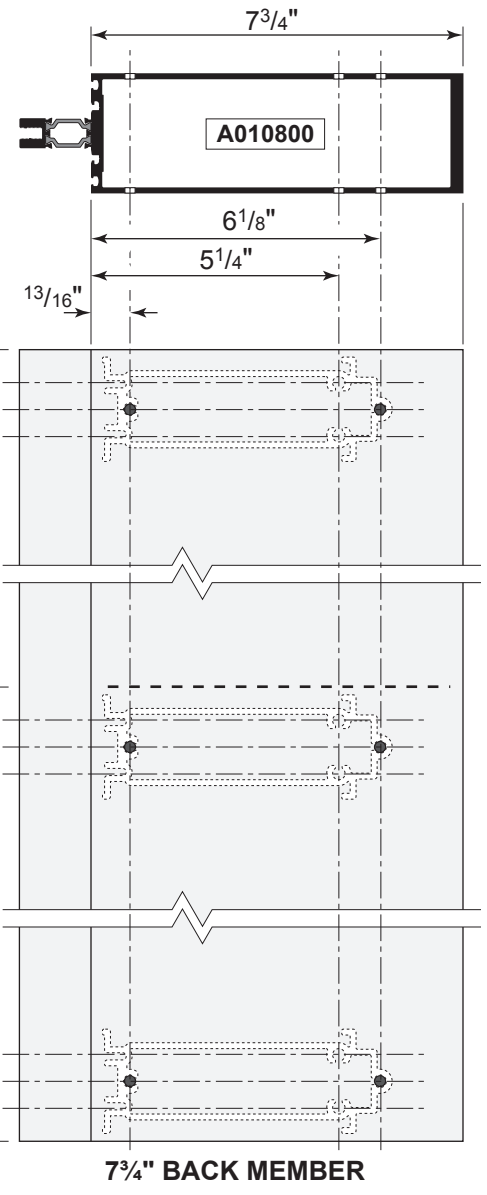

Fig. 25.4
- a. **Head, Intermediate Horizontal & Sill members** – A,D for 3³/₄" and 5¹/₄" back members; A,F for 7³/₄" back members. NOTE: Holes B,C (3³/₄" and 5¹/₄" back members) and E,G (7³/₄" back members) are optional and can be utilized for high load applications or as noted on approved shop drawings. See **Fig. 25.2** through **Fig. 25.4**.